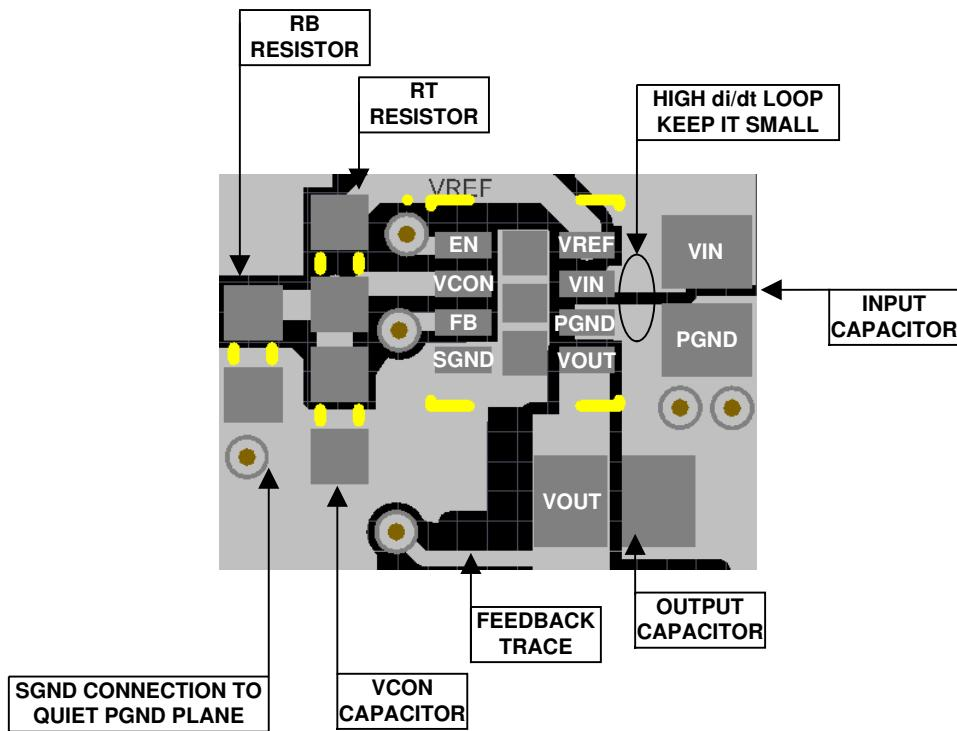

Figure 8-26. Example Top Layer Board Layout
The LMZ10501 integrates the inductor and simplifies the DC/DC converter board layout. Refer to the example layout in Figure 8-26. There are a few basic requirements to achieve a good LMZ10501 layout.
2. Place the  $V_{CON}$  filter capacitor  $C_{VC}$  and the  $R_B$   $R_T$  resistive divider as close as possible to the  $V_{CON}$  and SGND pins. The  $C_{VC}$  capacitor (not  $R_B$ ) must be the component closer to the  $V_{CON}$  pin, as shown in Figure 8-26. This allows for better bypass of the control voltage set at  $V_{CON}$ .